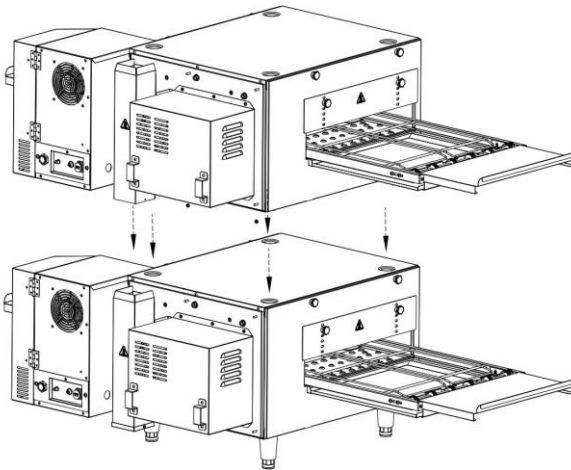

Figure 2
3. Put the conveyor belt in place by sliding it through the chamber (from right to left), and ensure the belt is locked in place by securing the drive shaft into the groove by pressing the spring by hand. **(fig. 2)**